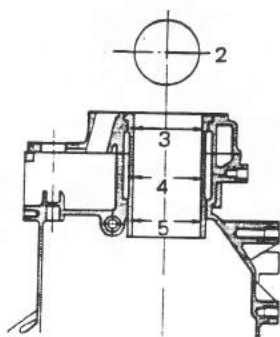

Fig. 81
- Check the inside of the cylinder liner for wear at six points shown in Fig. 81.